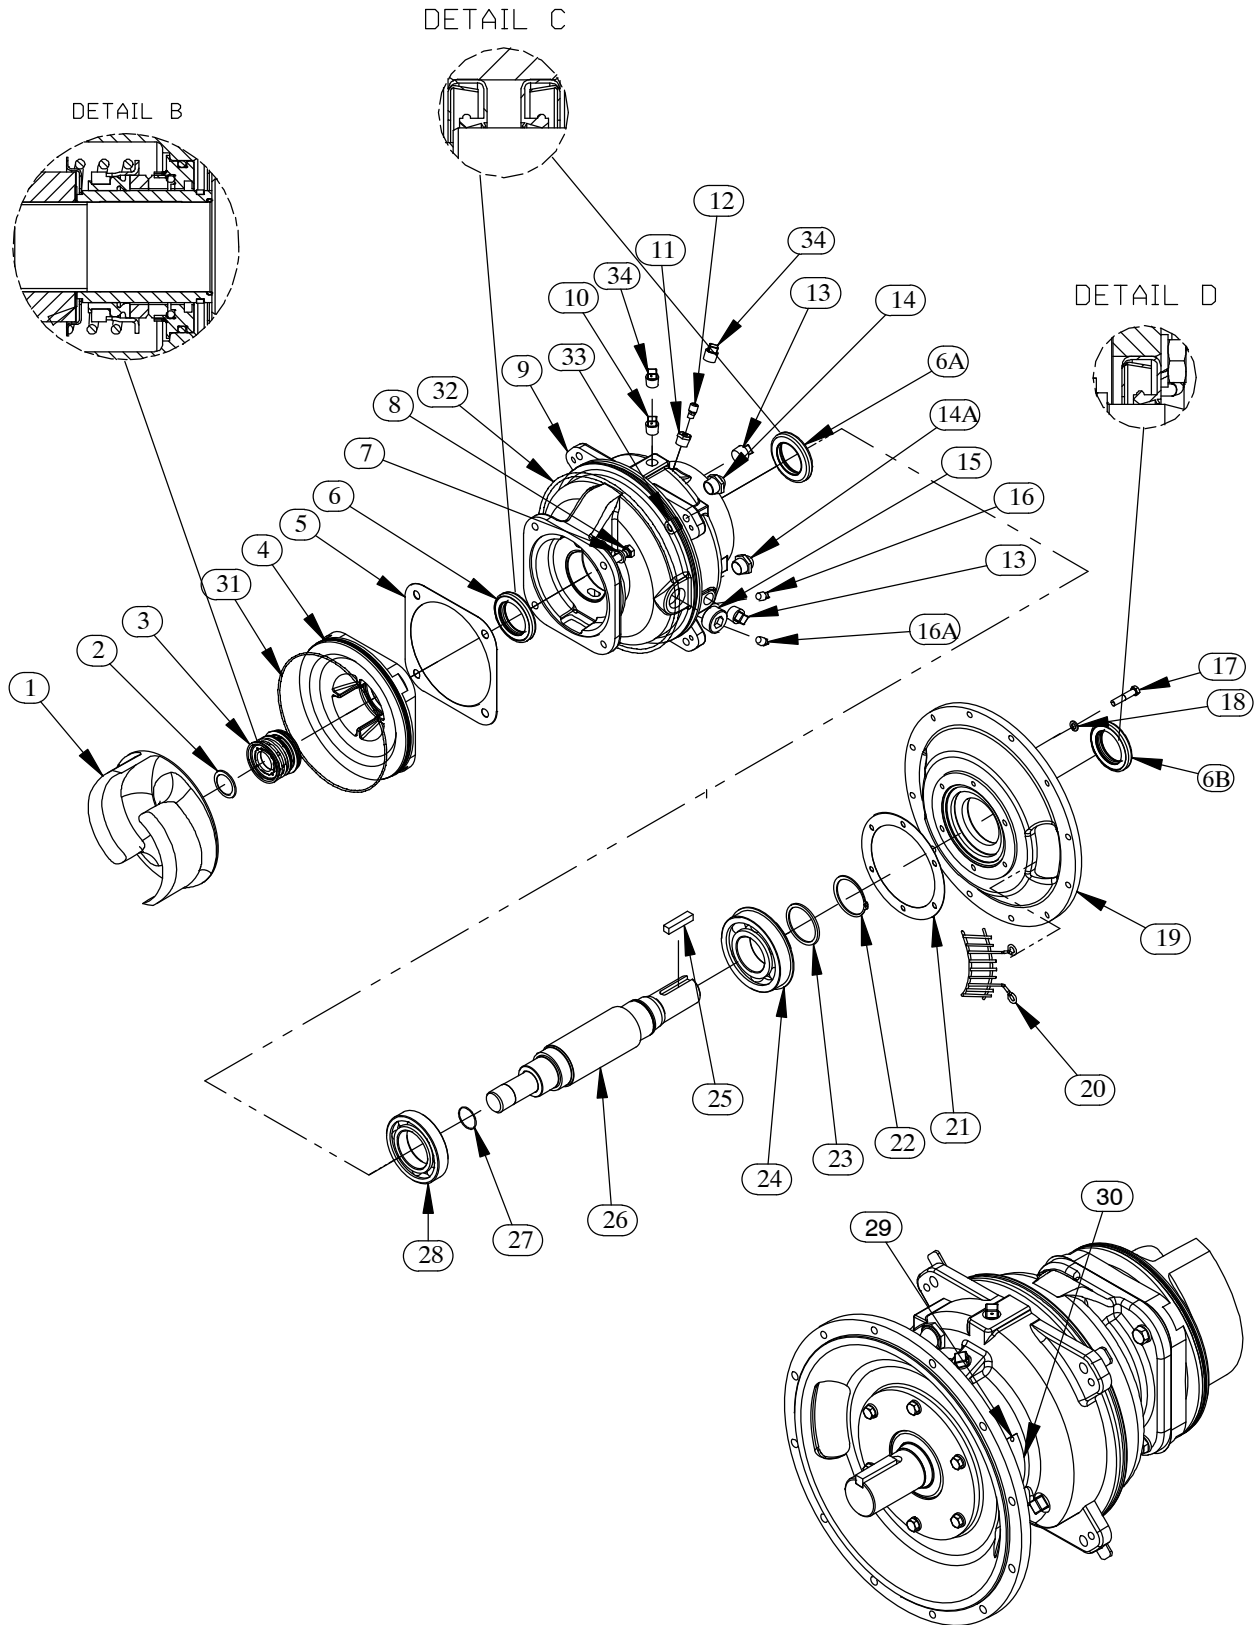

Figure 4. Repair Rotating Assembly
Disengage the hardware (3 and 4) securing the drive flange to the engine bellhousing, and remove the guards (20, Figure 4). Separate the pump end and drive assembly from the engine by pulling the pump end straight away from the engine.
As the assemblies separate, the flexible portion of the coupling assembly (2) will remain on the shaft. To remove the coupling from the shaft, unscrew the two allen head setscrews from the bushing (1). Screw one of the setscrews into the puller hole on the circumference of the bushing. As the coupling and bushing separate, remove the bushing, and slide the coupling off the shaft. Remove the shaft key (25, Figure 4).
(Figure 4)